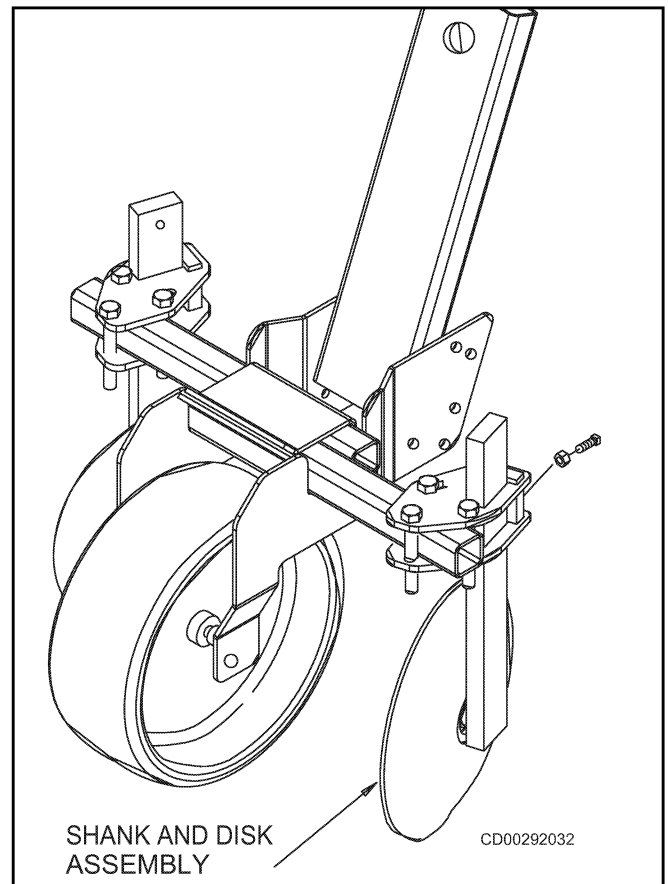

Figure 55 Mounting Discs
2. Install set screw and jam nut as shown in Figure 55.